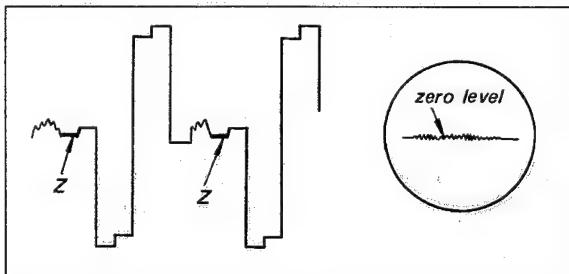

Fig. 4-18.
| <ol style="list-style-type: none"> <li>1. Receive the colour-bar signal.</li> <li>2. Set the contrast control at fully clockwise position (maximum contrast) and the tint control at the mechanical centre position.</li> <li>3. Connect a scope to the collector of Q309.</li> <li>4. Turn off the colour control and note the zero level line.</li> <li>5. Turn the colour control fully clockwise.</li> </ol> | T302T303  | <ol style="list-style-type: none"> <li>1. Adjust T303 until the position of zero level (Z) of R-Y waveform becomes same as the zero level line which was indicated at step 4 as shown in Fig. 4-18.</li> <li>2. Adjust T302 to make the R-Y waveform symmetrical on the scope as shown in Fig. 4-18.</li> </ol> |